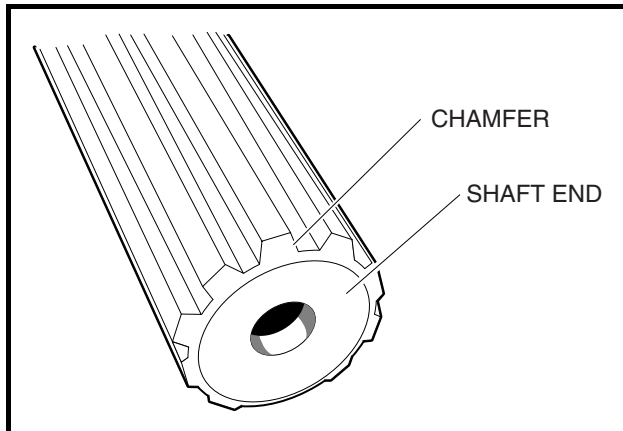

Figure 16-15 Clean Chamfer and Input Shaft End
- 2.6. Check the chamfer and end of the input shaft to ensure these areas are completely clean of grease as shown (**Figure 16-15, Page 16-13**).